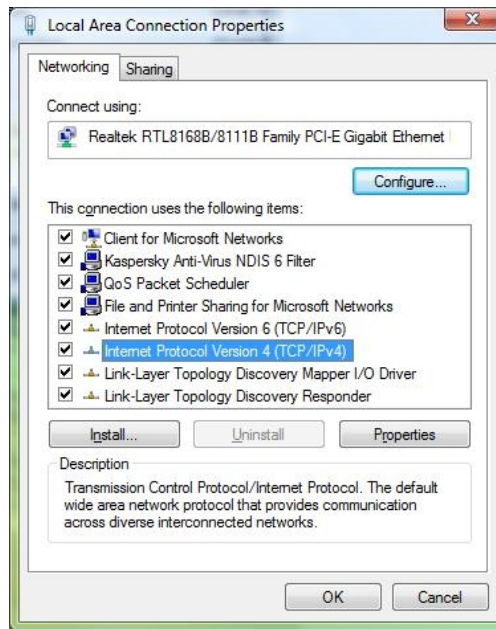

Figure 7. The Local Area Connection Properties dialog box.
5. The Local Area Connection Properties window is displayed. Select the "Internet Protocol Version 4 (TCP/IPv4)" component (Figure 7) and click the "Properties" button.